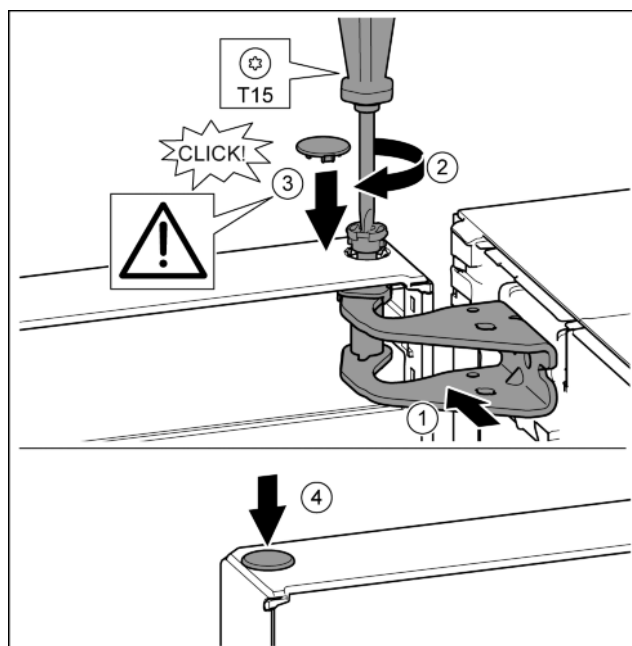

Fig. 20
- Align the top of the door with opening in the bearing bracket. Fig. 20 (1)
- Insert the bolt and tighten with a T15 screwdriver. Fig. 20 (2)
- Fit the protective cover to protect the door: Insert the protective cover and check that it is attached to the door. If not, insert the bolt fully. Fig. 20 (3)
- Insert the plugs. Fig. 20 (4)